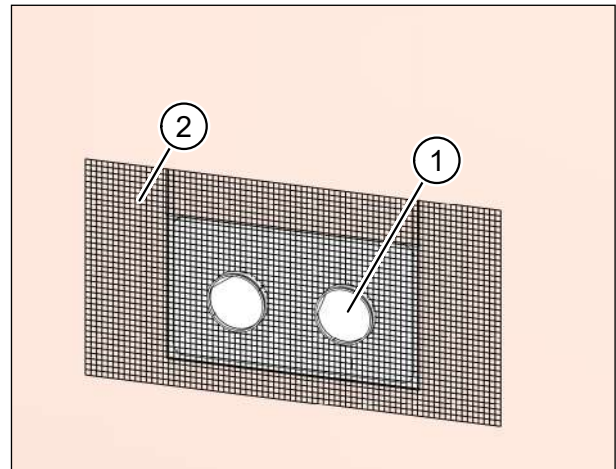
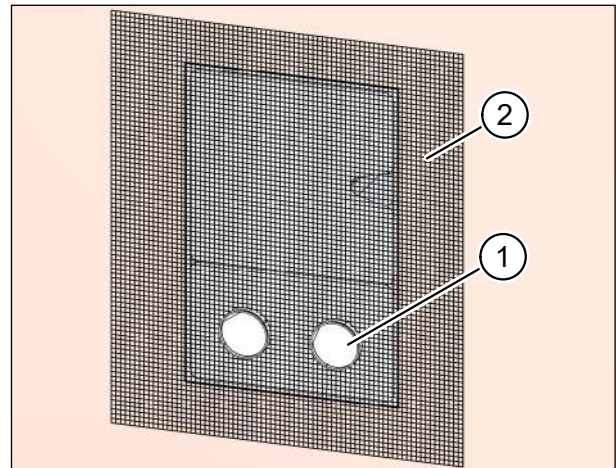

Fig. 36: Plastering the installation kit **without** filler piece
Fig. 37: Plastering the installation kit **with** filler piece
- ▶ Insert the protective sleeves (item 1 in Fig. 36 and Fig. 37). They should extend beyond the external wall so that they will end flush with the subsequent plaster coat. The protective sleeves provide the bonding surface for the external plaster.
- ▶ Apply the plaster scrim (item 2 in Fig. 36 and Fig. 37) to the outside of the wall box, external wall and/or facade insulation.